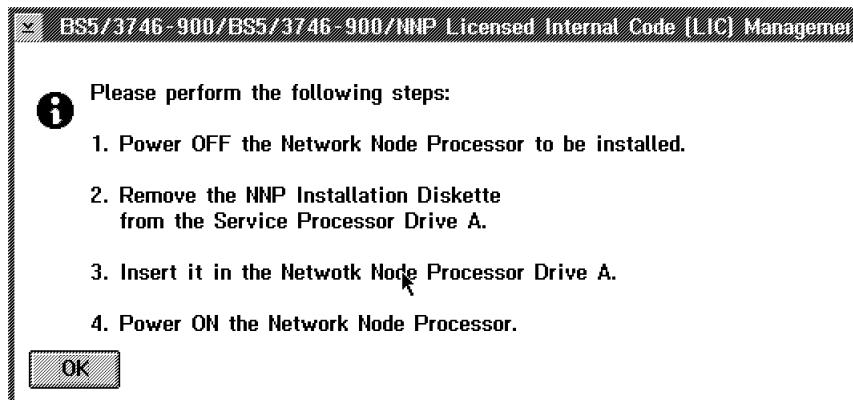

Figure 1-37. NNP-A Licensed Internal Code Management
12. \_\_\_\_ When the process is completed, record the following procedures listed on Figure 1-37, then click on **OK**.